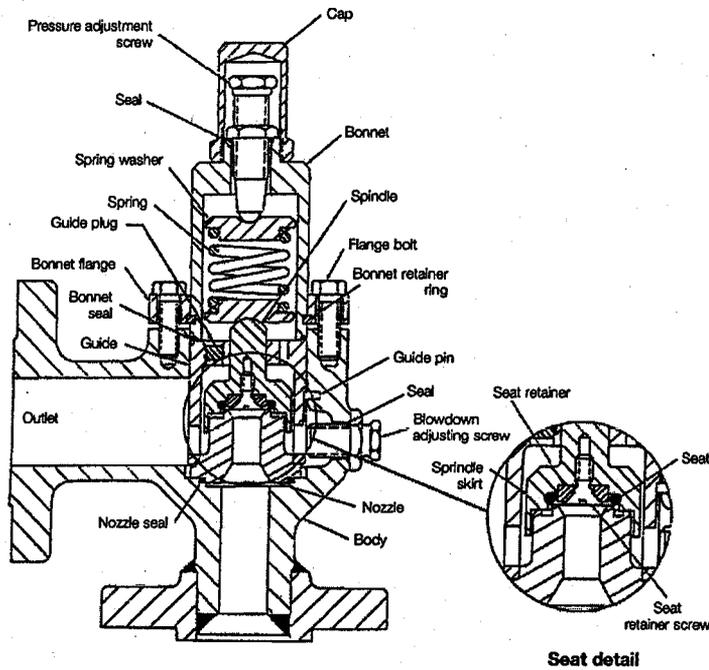

Figure 2
3. Valve repair (F, G, H & J Orifice) refer to figure 2
3.0 VALVE REPAIR (F,G,H, J ORIFICE) REFER TO FIGURE 2